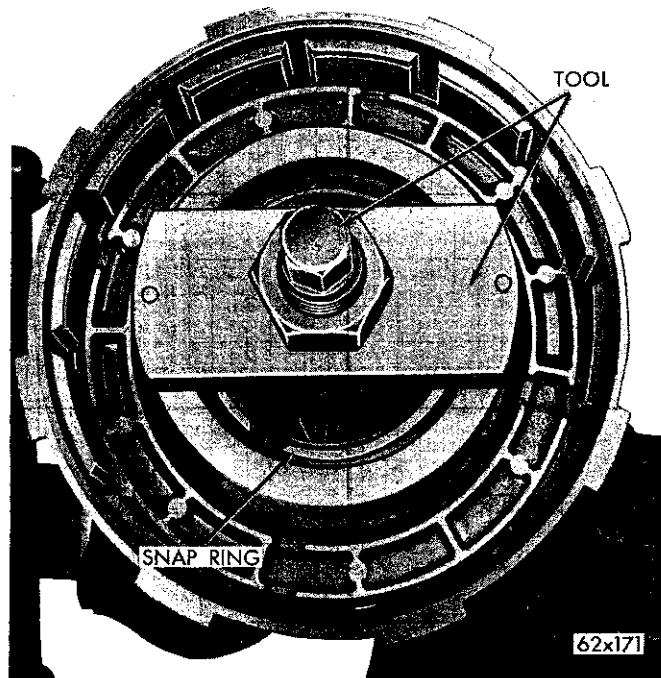

Fig. 69—Removing or Installing Front Clutch Spring Retainer Snap Ring
(1) Using a screw driver, remove the large snap ring that secures the pressure plate in the clutch piston retainer. Lift the pressure plate and clutch plates out of the retainer.
(2) Install compressor, Tool C-3863 over the piston spring retainer, as shown in Figure 69. Compress the springs and remove the snap ring, then slowly release the tool until the spring retainer is free of the hub. Remove the tool, retainer and springs.
(3) Invert the clutch retainer assembly and bump on a wood block to remove the piston. Remove the seals from the piston and clutch retainer hub.
and snap ring on the springs. Compress springs with Tool C-3863 (Fig. 69), and seat snap ring in the hub groove. Remove the compressor tool.